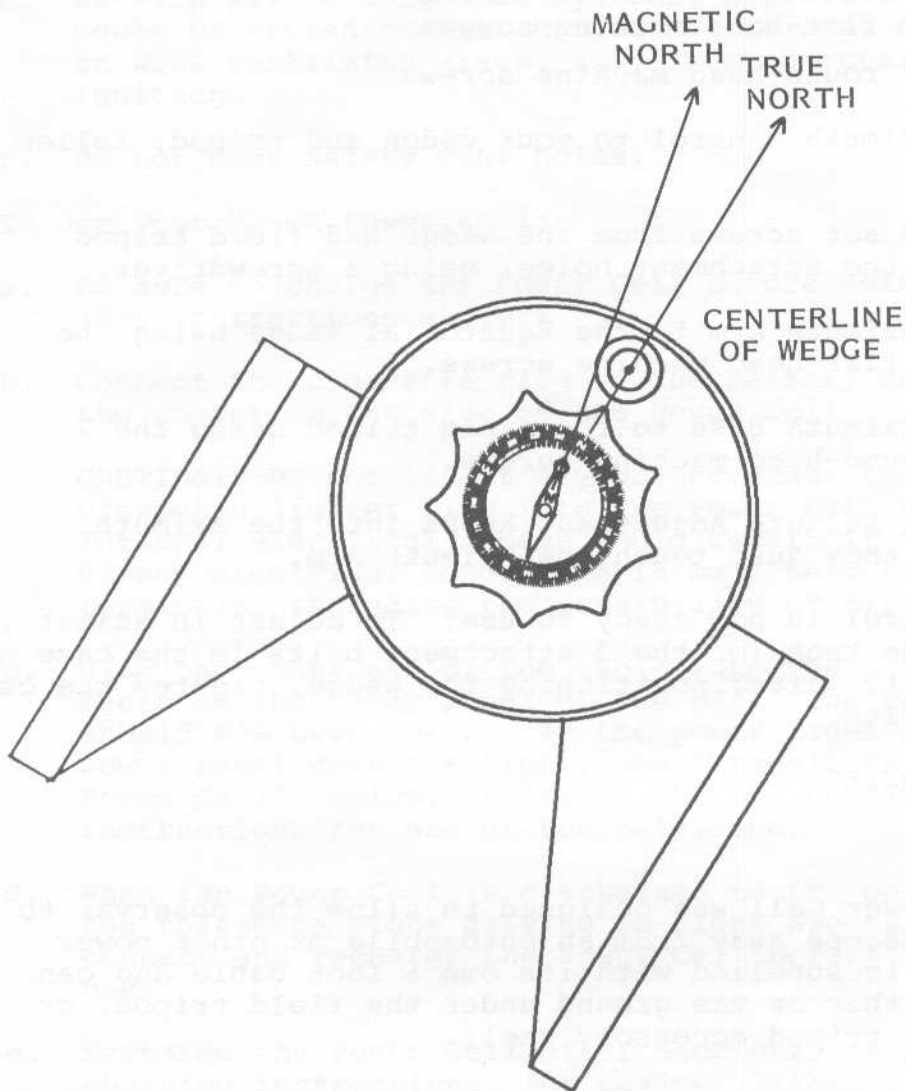

Fig. 6
3. By rotating the Equatorial Wedge in azimuth, position the point of the knob/compass so that it points directly to the center of the bubble level (Fig. 6). The centerline of the Equatorial Wedge now falls directly on the true north line.